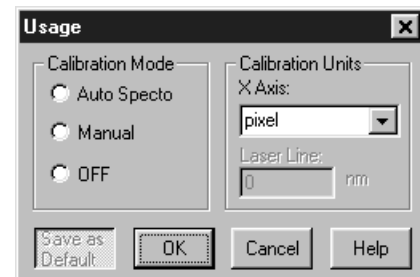

Figure 60. Calibration Usage dialog box
1. Select **Usage** from the Calibration menu. The dialog in Figure 60 will be displayed.